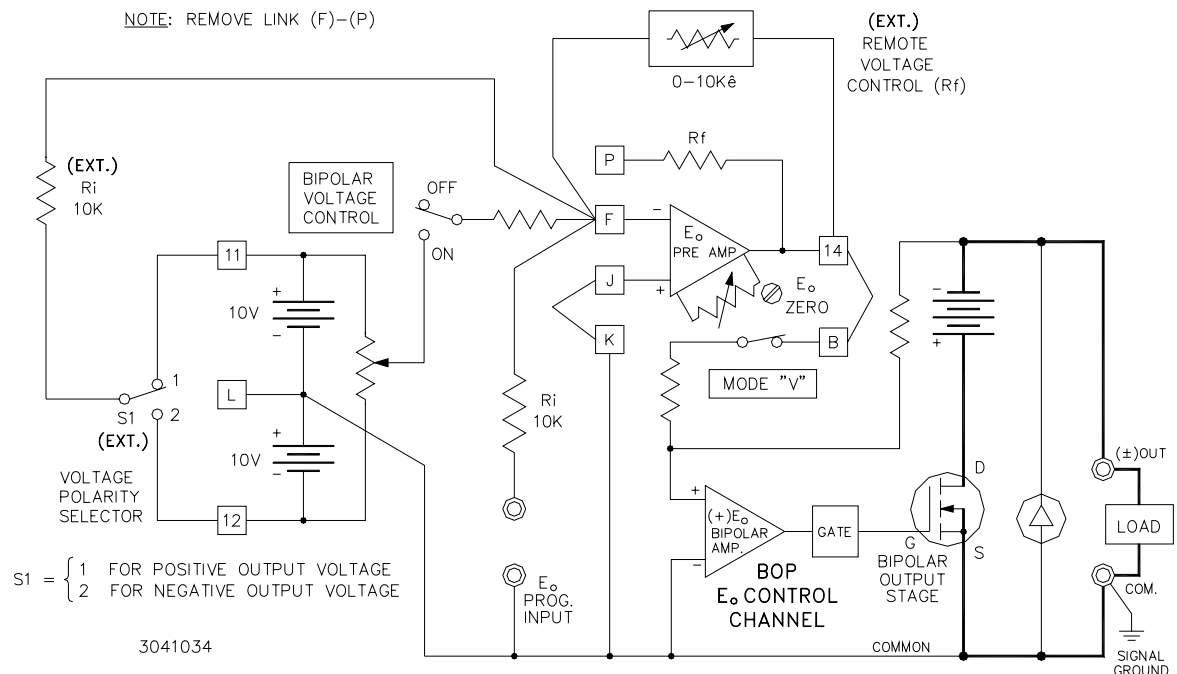

FIGURE 3-8. REMOTE D-C OUTPUT VOLTAGE CONTROL BY MEANS OF A TWO TERMINAL RESISTANCE (DECADE)
- B) Two terminal resistance control of the d-c output voltage (for example, by means of a Decade Box) can be exercised as shown in FIG. 3-8.